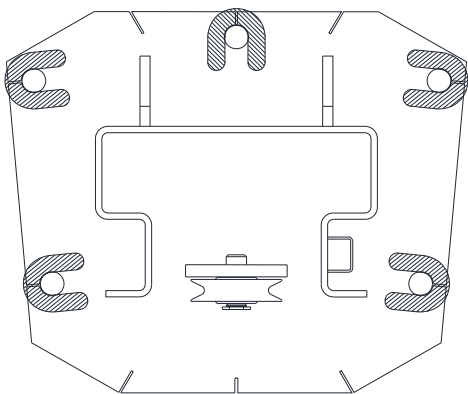

Fig 5 – Column Shimming
- 11) Shim column to plumb using the shims provided as shown in **Fig 5**. DO NOT shim more than 1/2" at any given point. Use a level no less than 24" in length to plumb Columns.
- 22) Check Idler Column shimming. Use additional shims (**see Fig 5**) to remove any gaps that may have been created while installing Overhead. Repeat steps 7-13 for the Idler Column anchoring.